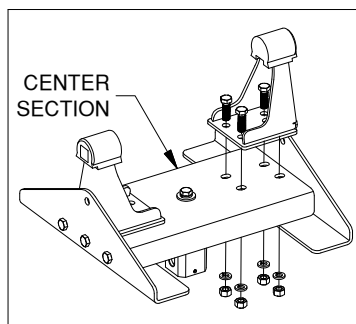
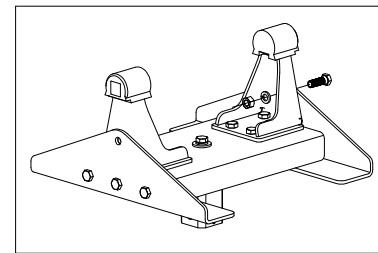

Figure A3: View of center section and pivot arm.
Figure A4: View of center section and pivot arm.
2. With the remaining ten 1/2" cap screws, 1/2" split lock washers and, 1/2" nuts, attach the pivot arms to the base. Start by passing four cap screws through the top of a pivot arm down through the base and hand tighten with split lock washers and nuts as shown in Figure A3. Next, pass a single 1/2" cap screw through the side of the pivot arm and hand tighten with a split lock washer and nut as shown in Figure A4. Repeat these steps for the pivot arm on the other side of the center section. Torque each bolt to 110 ft-lbs.